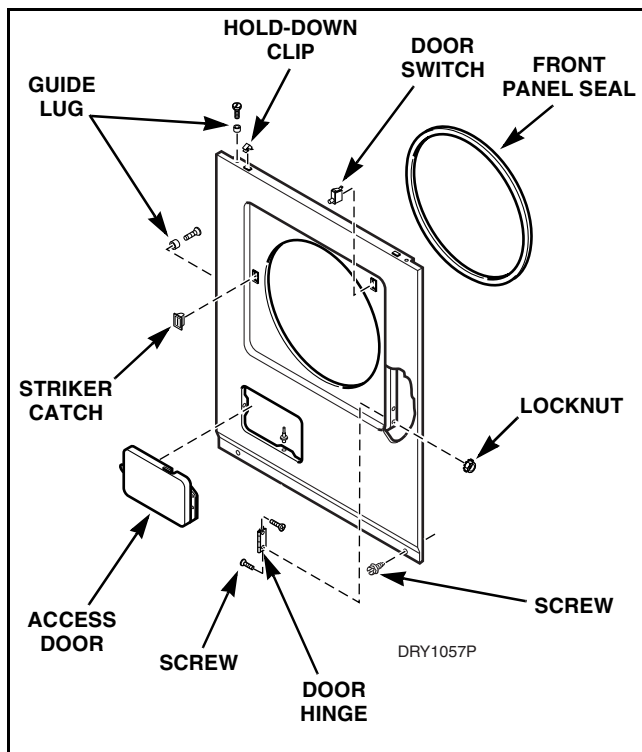

Figure 12
Refer to *Figure 12*
- Remove two screws from the bottom edge of the front panel. Refer to *Figure 12*.
- Swing the bottom of the panel away from the dryer to disengage hold-down clips and guide lugs from cabinet top. Refer to *Figure 12*.
- a. Remove two screws from the bottom edge of the front panel. Refer to *Figure 12*.
- b. Swing the bottom of the panel away from the dryer to disengage hold-down clips and guide lugs from cabinet top. Refer to *Figure 12*.
- d. Depress tabs on top and bottom of catch and push out of front panel. Refer to *Figure 12*.
- d. Remove four screws and locknuts holding hinges to front panel. Refer to *Figure 12*.
- d. Compress hold-down clips and remove from slot in top flange of front panel. Refer to *Figure 12*.
- e. Remove four screws holding four guide lugs to front panel. Refer to *Figure 12*.